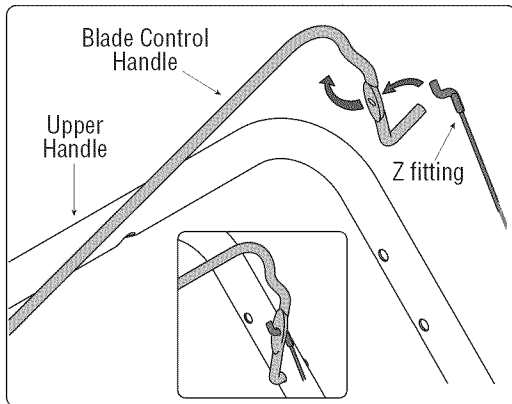

Figure 6: Attaching the “Z” fitting.
2. To make it easier to attach the Z fitting, remove the left side of the blade control handle as shown in Figure 6.
3. Hook the “Z” end of the brake cable into the handle from the outside to the inside, Figure 6.